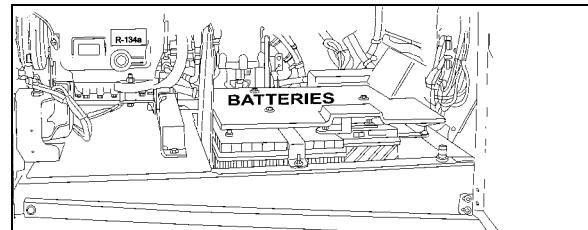

FIGURE 13: ENGINE COMPARTMENT R.H. SIDE 18513
The vehicle is provided with four (4) maintenance-free 12 volt heavy-duty batteries connected in series-parallel (Fig. 13). The top-mounted negative and positive terminals are tightly sealed to prevent leaks. Water never needs to be added to this type of battery. There
The batteries are located in the engine compartment R.H. side (Fig. 13).
The batteries are located in the engine compartment R.H. side area (Fig. 13).